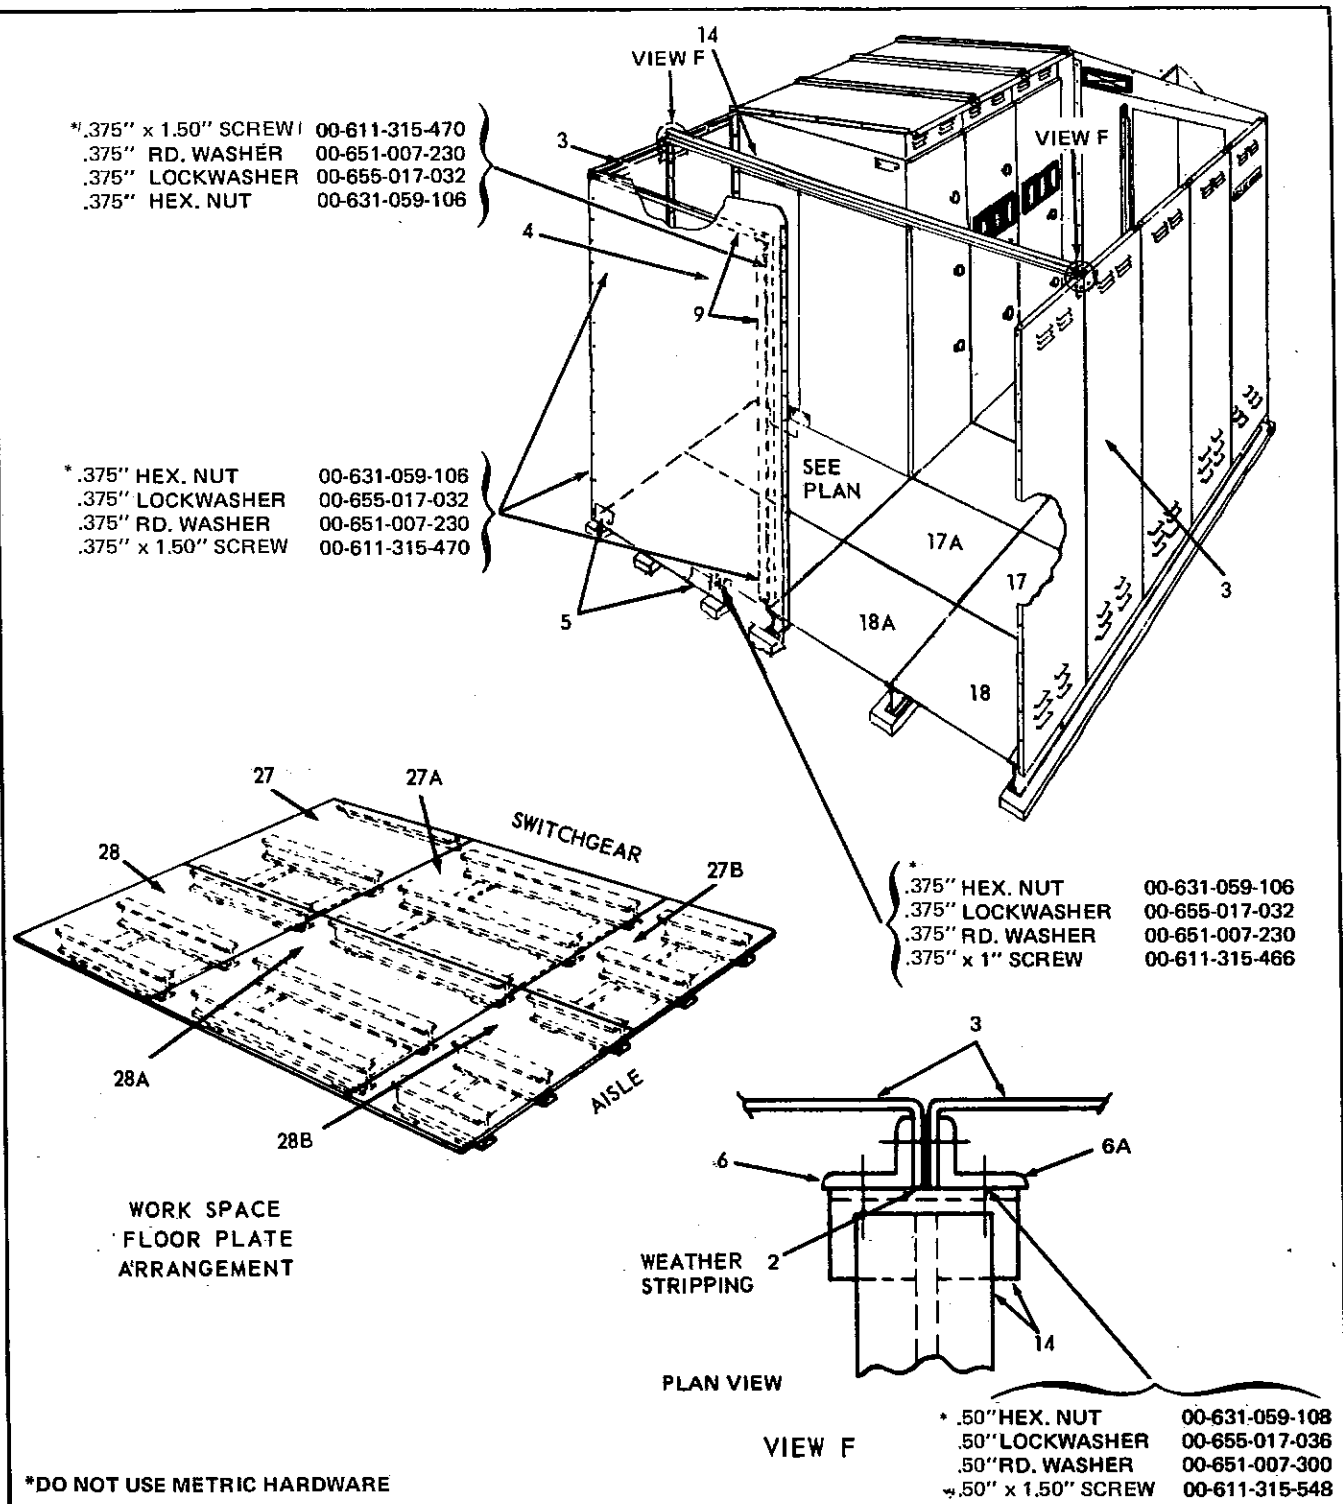

Figure 42. Floor Plate Installation (15 kV) - Single Aisle with Work Space
6. Assemble aisle walls (3). See general arrangement drawing for location of special panels for fans, etc. Apply .50-inch (12.7 mm) sealant tape to the joints. Place the tape so that one edge is on the vertical centerline of the holes and the other edge is toward the seam which will be exposed to the weather.
7. Bolt plates (3) together, to switchgear unit and to beam (1). Apply .50-inch (12.7 mm) sealant tape to the joints.
8. Attach angles (10) to ends of beams.
9. See Figure 42. Mount beams (14) between walls at each joint (view "F").
10. Mount frame (9) at end of work space.
11. Install end cover (4) and attach it to rear plate (3), frame (9) and to angles (10).
12. Install floor plates (17, 17A, 18 and 18A) in the same arrangement as that for single aisle layouts (see Figure 26). Install the floor plates in the work area as shown in Figure 42. Install covers (5).